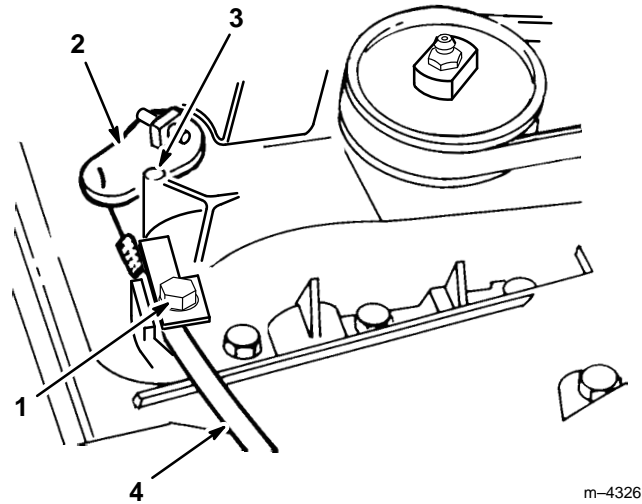

Figure 21
4. Loosen the clamp screw (Fig. 21).
5. Push the shift lever until it is tight against the stop (Fig. 21).